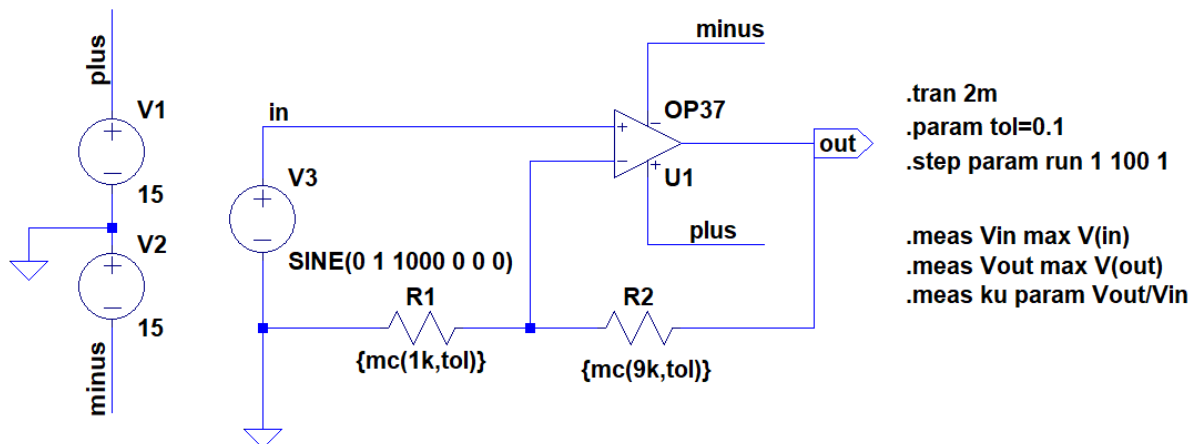

Fig. 2. Scheme of the tested amplifier circuit for MC analysis.
1. Modify the amplifier circuit diagram as shown in Figure 2.